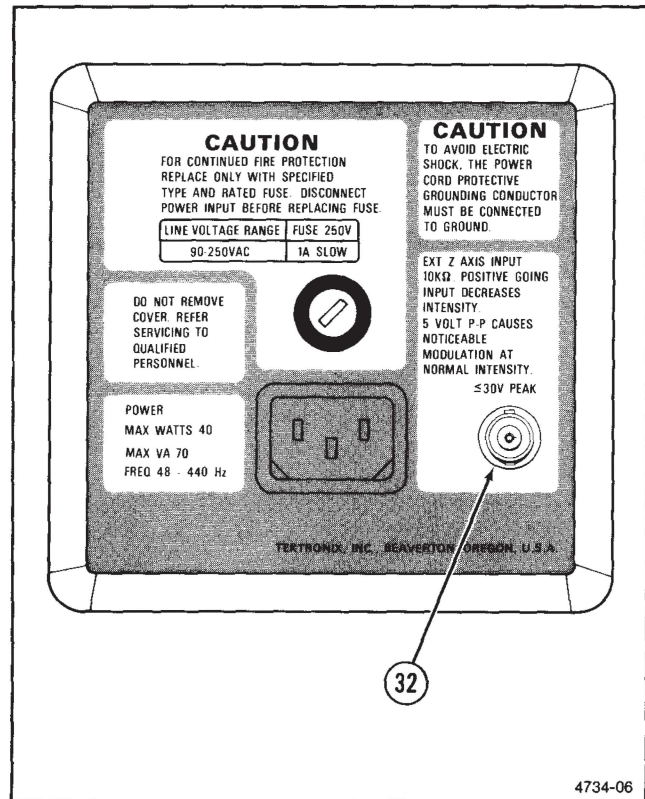

Figure 2-7. Rear-panel connector.
Refer to Figure 2-7 for location of item 32.